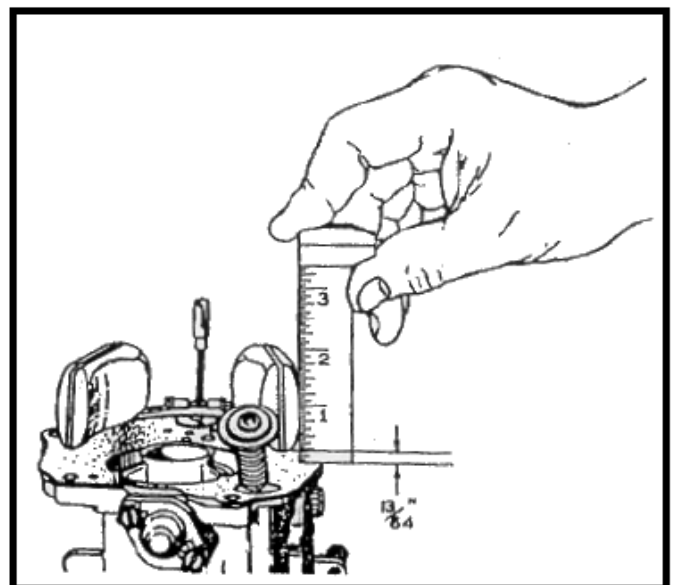

Figure 2-26. Measuring Distance Between Float toes and Gasket
- y. Place the throttle body to bowl gasket (1) in position on the throttle body (80), engage the float and lever assembly (14) in the float bracket (55), and install the float shaft (16). Secure the float shaft with cotter pin (15). Measure the distance between the floats and gasket at the float toes; this distance should be the same for each float and should be 13/64 inch. When set at this height, the float lever should be correct after the carburetor is reassembled and placed into operation. (See figure 2-26.) (refer to Section III for final float testing.) Make certain that the float and lever assembly does not bind in any position.
- z. Place a mixture metering valve head washer (10) in the recess of the throttle body (80) and insert the mixture metering valve assembly (13) through the throttle body. If the horseshoe washer (12) was removed during disassembly, it should be installed on the mixture metering valve assembly (13) before it is inserted into the throttle body. Slide the mixture metering valve head gasket (11) on the outer end of the mixture metering valve assembly (13) and install a mixture metering valve
- e. All Model MA4-5 series carburetor floats are set at $13/64$ inch as shown in figure 2-26.